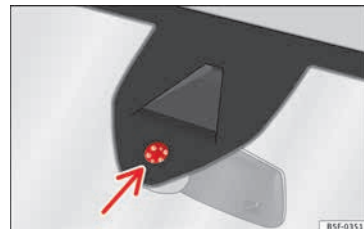

Fig. 143 Rain sensor sensitive surface
Possible causes of faults and mistaken readings on the *sensitive surface* » **Fig. 143** of the rain sensor include:
- Clean the sensitive surface of the rain sensor regularly and check the blades for damage » **Fig. 143** (arrow).